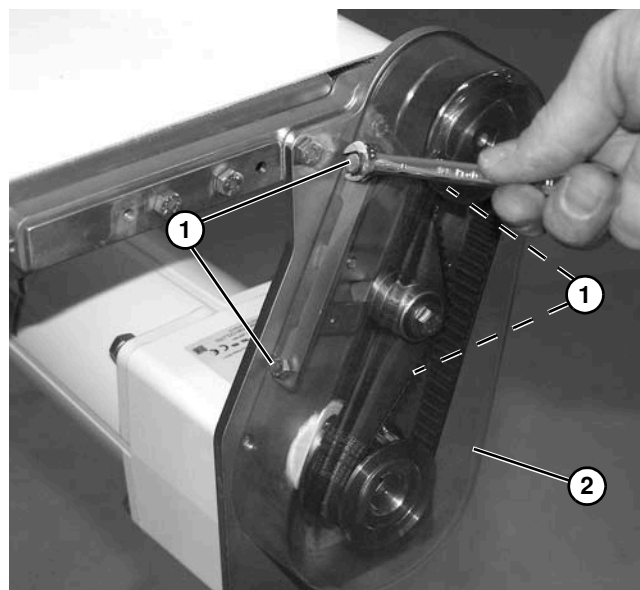

Figure 45
1. Loosen four screws (Figure 45, item 1) securing cover (Figure 45, item 2).
2. Remove cover (Figure 45, item 1).